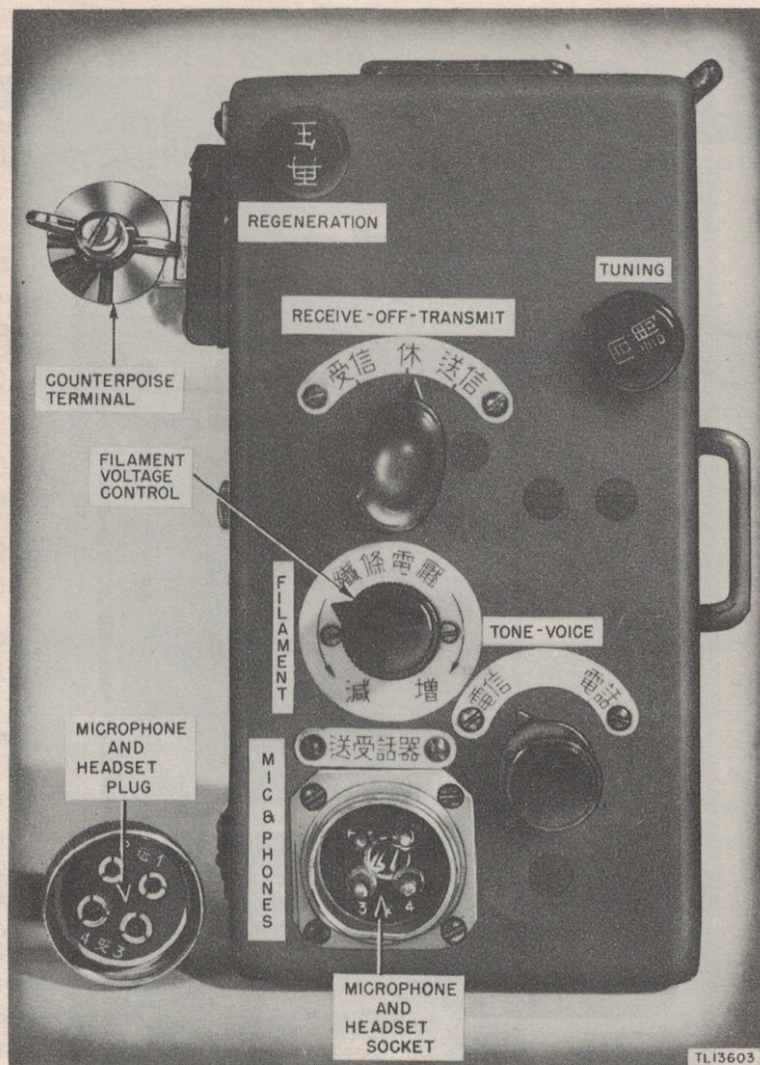

Figure 19. Japanese Radio Set Model 97 Light Wireless Set, left side view, operation controls, with name tabs..
a. General. After the set is installed, it is prepared for operation as follows (see figures 19 and 20 for location of controls):